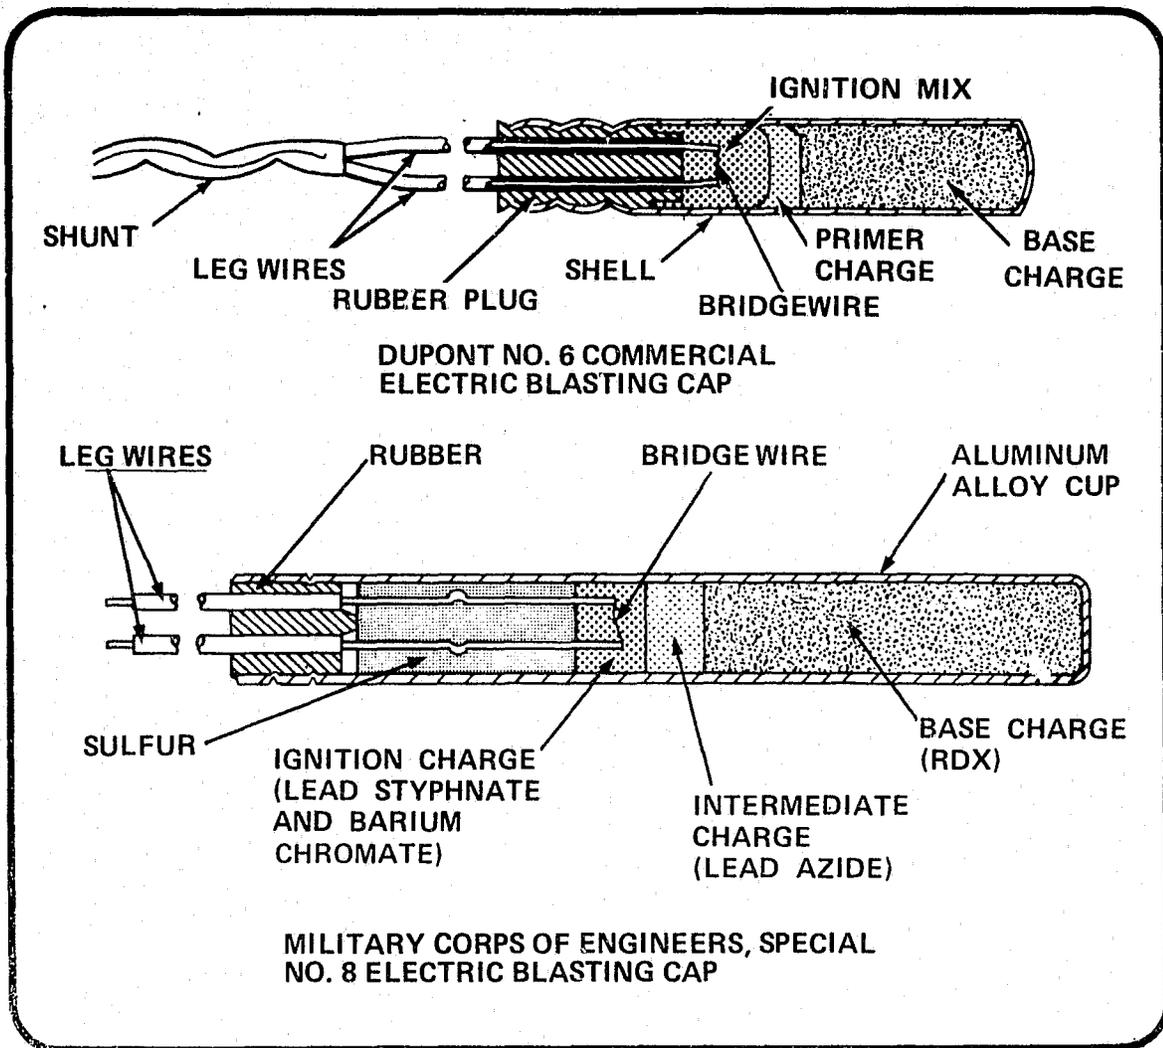

Figure 25
- **Electric Blasting Caps.** Electric blasting caps are used when a source of electricity, such as a blasting machine or battery, is available. As illustrated in figure 25, the electric cap is constructed from a small metal tube or shell which is closed at one end. The cap contains a base load of a sensitive high explosive, a pressed intermediate charge of extremely sensitive explosive, and a loose ignition charge. The electrical firing element consists of two plastic insulated *leg wires*, (also called lead wires) an insulated plug which holds the two wires in place, and a small diameter corrosion resistant bridge wire attached across the terminals of the leg wires below the plug. This assembly is double crimped into the cap shell.